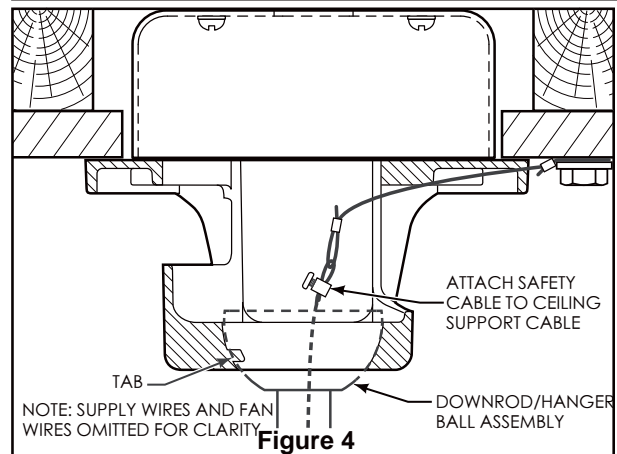

Figure 4
- 4. Slide downrod into the downrod support on top of the motor. Install the clevis pin by aligning the holes in the downrod support with holes in the downrod. Secure clevis pin with hairpin clip. Install and tighten the two set screws with nuts in the downrod support. (Figure 4)
4. Carefully lift the fan and seat the downrod/hanger ball assembly on the hanger bracket that was just attached to the ceiling joist. Be sure the groove in the ball is lined up with tab on the hanger bracket. (Figure 4)
5. Attach the safety cable to ceiling support cable. Slide cable clamp onto safety cable (from fan). Place the end of cable through the loop of ceiling support cable. Pull as much cable through loop as possible. Feed end of cable into clamp hole and firmly tighten screw (Figure 4). Cut off excess safety cable.